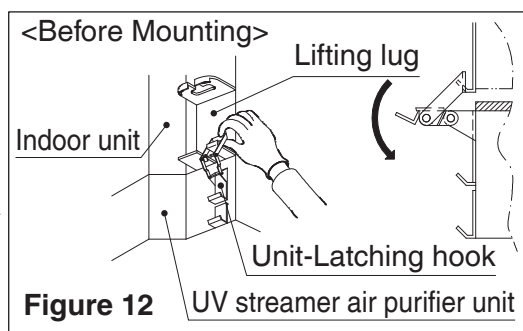

Figure 12
(2) Hook the unit-latching hooks of the UV streamer air purifier unit to the lifting lugs of the indoor unit. (Refer to **Figure 12**.)